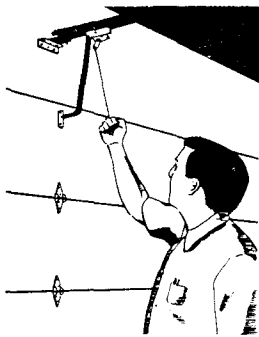
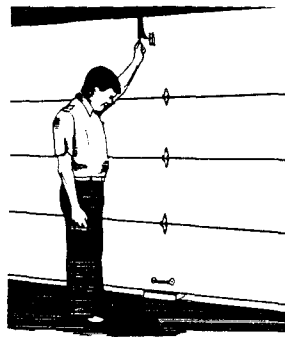

FIG. 13
FIG. 14
**RELEASE TEST:** With the door closed grasp the red handle and pull downward and away from the door (Fig. 13). The sides of the carrier should separate slightly. Raise the door manually just enough to determine that it is free from the operator. (2" or 3" is sufficient). This is a convenient time to lubricate the carrier as recommended in Sec. 2. Set the release to reconnect by pulling the release cord slightly forward toward the door. Activate the operator. The inner slide of the carrier will reconnect with the outer slide and the door will move in the open direction. Stop the door with the wall button or transmitter and place a 1/2" thick board under the door (Fig. 14). Activate the operator again and allow the door to close on this obstruction. The door and operator should stop and not reverse. Test the release under this circumstance just as was done previously. Set the door to reconnect and run the door open again.